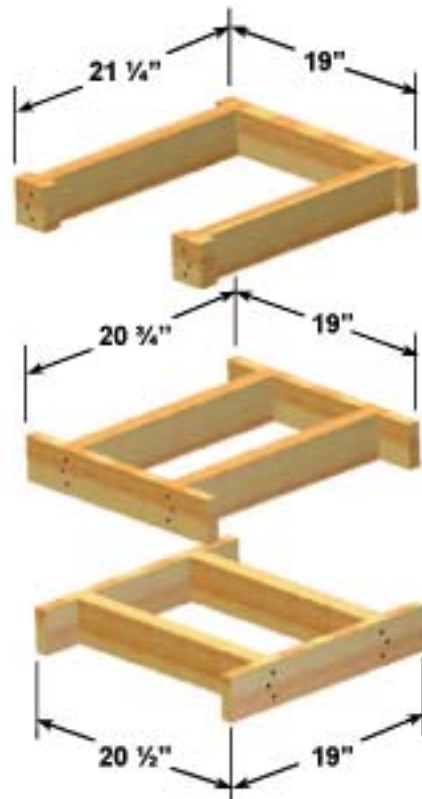

Figure 9.2
- FP1255 catch basins should be braced with 2x4's. See Fig. 9.2